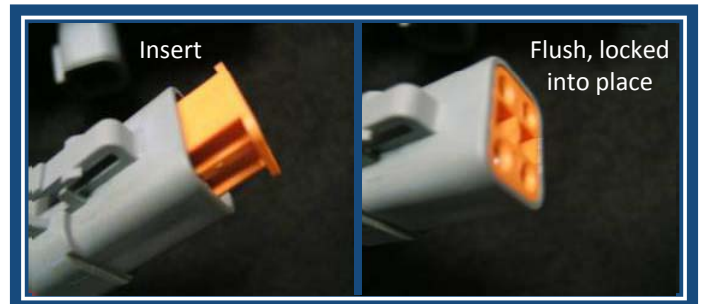

Figure 8
**Step 8:** Locate the orange lock from the bag kit and insert into the Deutsch connector. Make sure that the lock is pushed in flush with the end of the connector and locked into place. (See Figure 8)